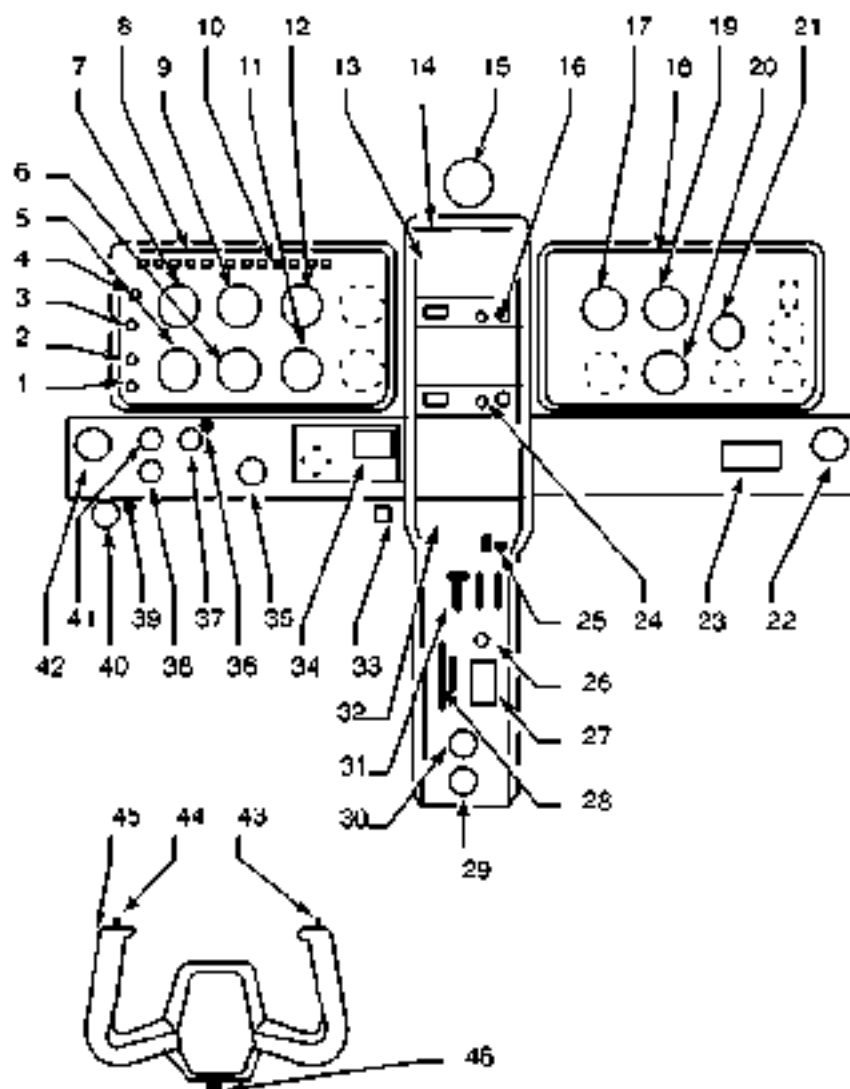

Figure 9.2.3 - EXAMPLE OF INSTRUMENT PANEL - VFR -
- See Figure 9.2.3.
- Front overhead lights controlled by turning post lights and regulated by the "Emergency" control. See Figure 9.2.3.
- Front overhead lights controlled and regulated by the "Emergency" control. See Figure 9.2.3.